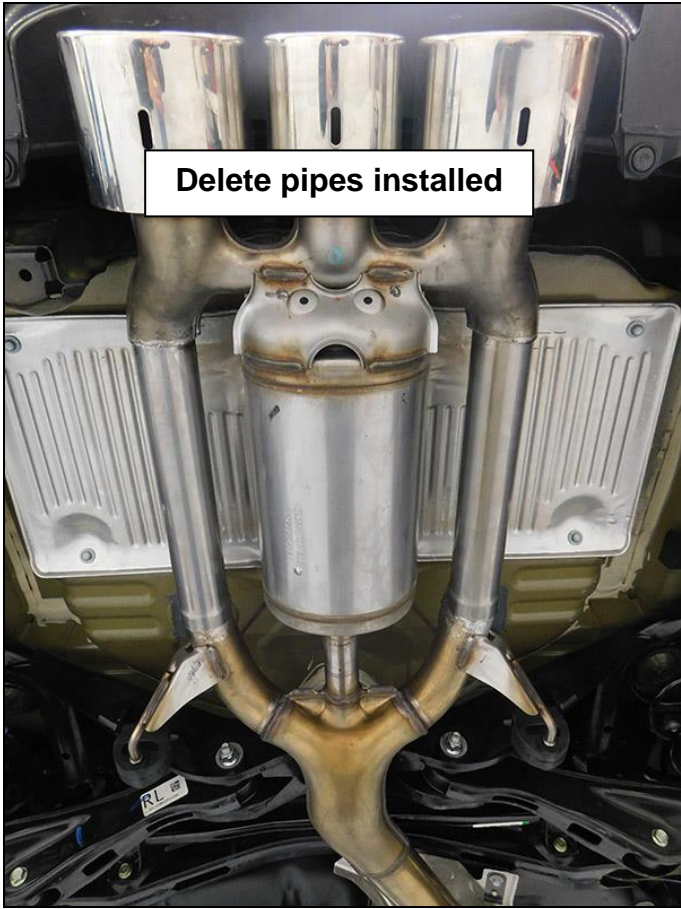

Figure 3
6. Align the expanded end of the delete pipe with the exhaust pipe from the engine (muffler inlet pipe). Slide the delete pipe over the Inlet pipe from the engine approximately 1/8th inch. There should be approximately 1/8th inch of overlap on both sides of the delete pipe at this point (**Figure 3**).